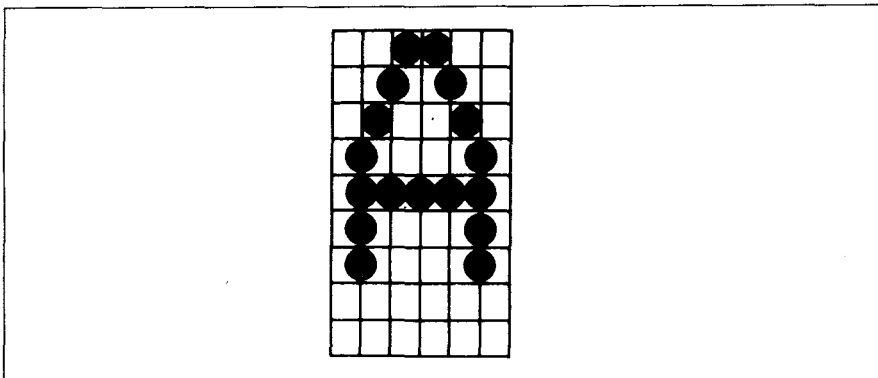

Figure 8-1. Dots can be inside boxes or straddle the vertical lines of the grid.
- Horizontally, dots may be centered in a box, or may straddle a line, making the actual character grid 11 dots wide by 9 dots high. Vertically, dots can only be centered in a box. See Figure 8-1.